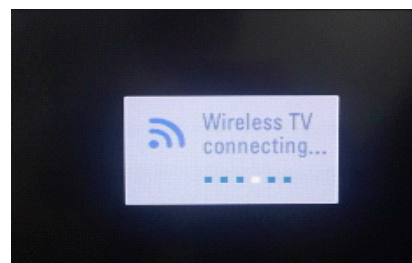

Fig.3 Connect the Dongle
Step 2) At OSD of SET, check the message like Fig.3